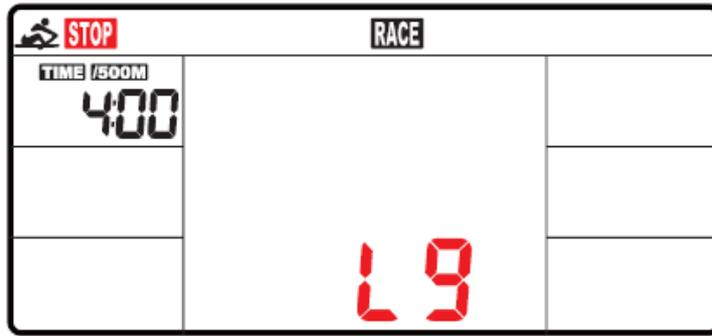

Fig. 5
2. RACE (Fig.5): Select RACE mode and L9 will flash. The TIME/500M will display 4:00. Then, press UP or DOWN to select L1 ~ L15. Press ENTER to confirm. Then, you can set the distance of the race (500M~10,000M) while the value of DISTANCE is flashing. Press ENTER and the animation of the race will display on the screen. The preset values for TIME/500M of the programs are as follows: